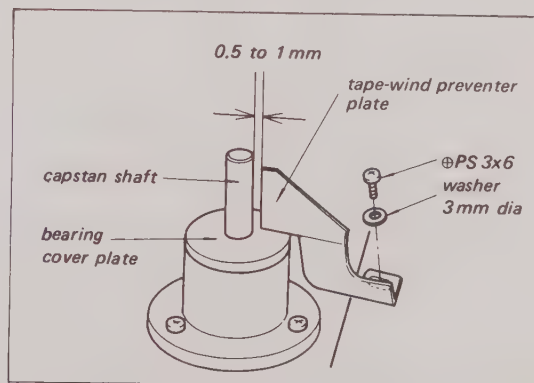

Fig. 5-45. Capstan disassembly
2. Remove the PS3 x 6 screw that secures the Tape-Wind Preventer Plate. See Fig. 5-45.